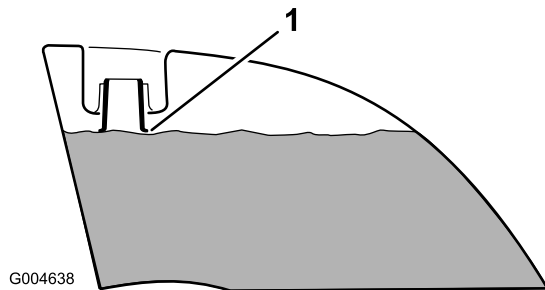

Figure 41
4. Add fuel to both fuel tanks, until the level is even with the bottom of the filler neck (Figure 41). Do not over fill the fuel tanks.